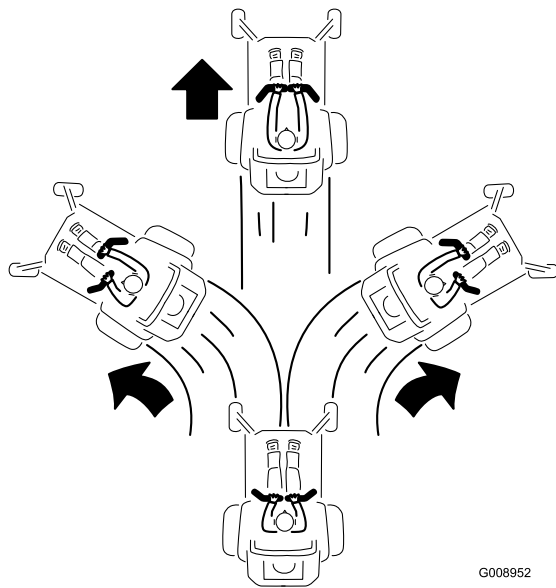

Figure 20
- 2. To go forward, slowly push the motion-control levers forward (Figure 20).